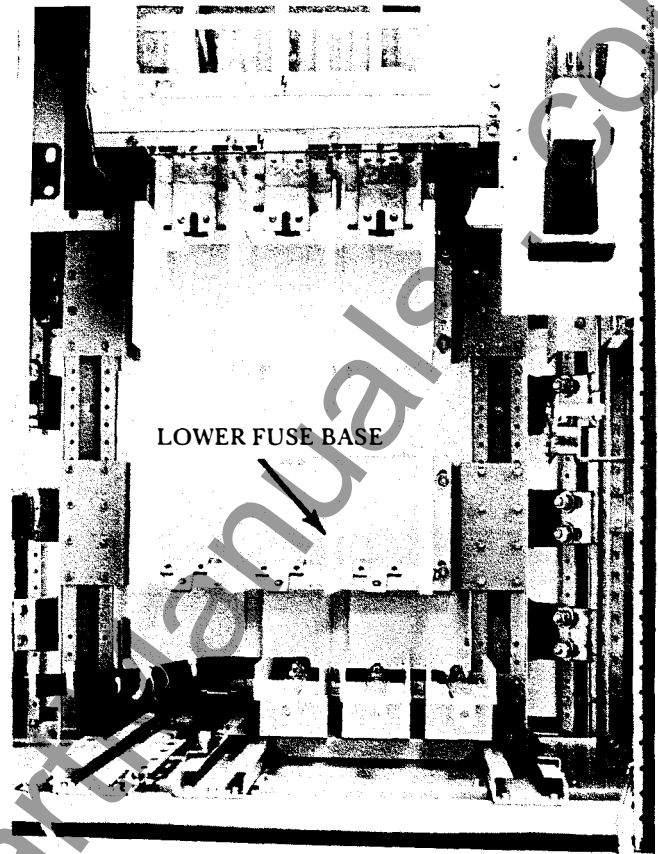

Figure 24. CPT and stationary contactor removed to provide better access to main bus bars on left side
To remove the CPT, disconnect the control wires that are attached to the transformer terminal board and disconnect the two CPT high-voltage fuse leads that attach to the lower terminals of the power fuse assembly. Then remove the transformer and fuse block assembly by removing the four (4) bolts that mount the transformer. See Figure 24 for view with CPT, CPT fuse block and power fuses removed.